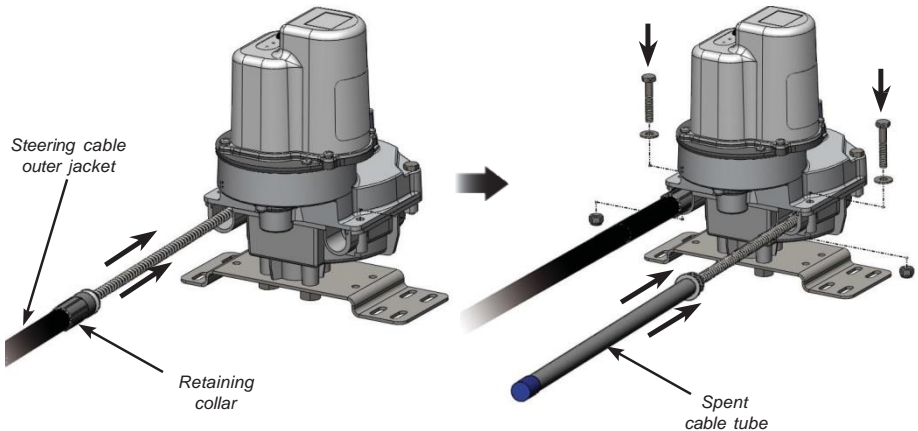

Fig B12 - Fitting steering cable and spent cable tube
- iii) Push the steering cable jacket into the port until the retaining collar butts against the drive housing (Fig B12). If required, the cable can be "driven" into the drive by powering up the clutch and drive.